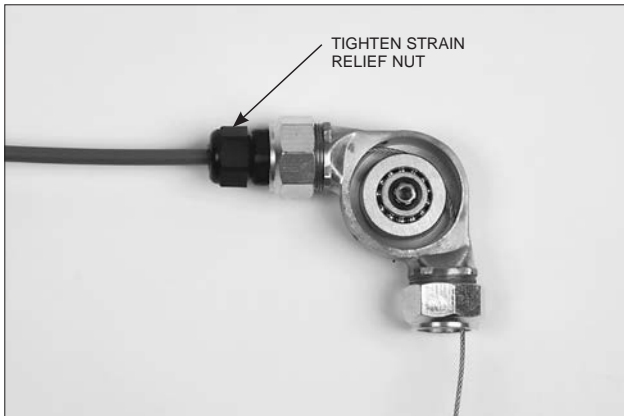

FIGURE 5-69
- Tighten the strain relief nut onto the strain relief. See Figure 5-69.